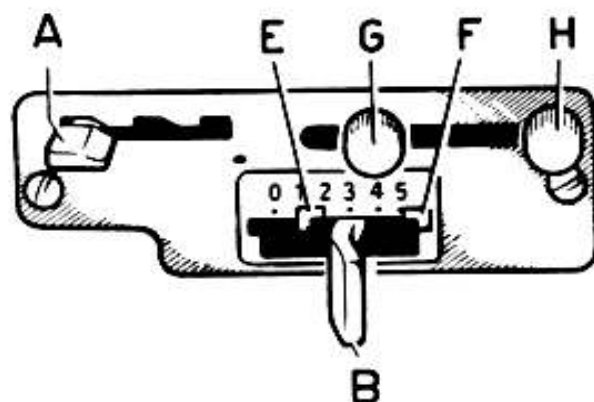

Fig. 26
NOTE: the small plates «E» and «F» which make it possible to limit the displacement of the zigzag width lever, can be shifted by loosening and shifting the two buttons «G» and «H» (Fig. 26).
*Lever « B »* (Fig. 26) set for desired zigzag width.